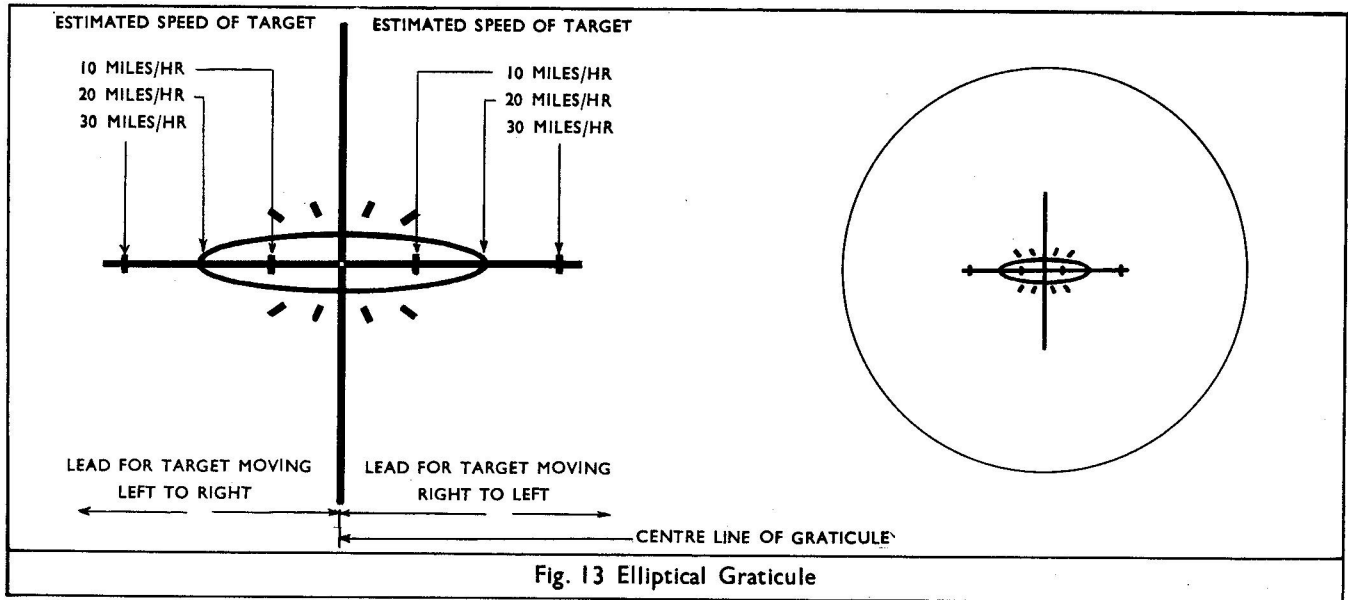

Fig. 13 Elliptical Graticule
19.3. Elliptical (Fig.13) Has a vertical and horizontal line and an ellipse.